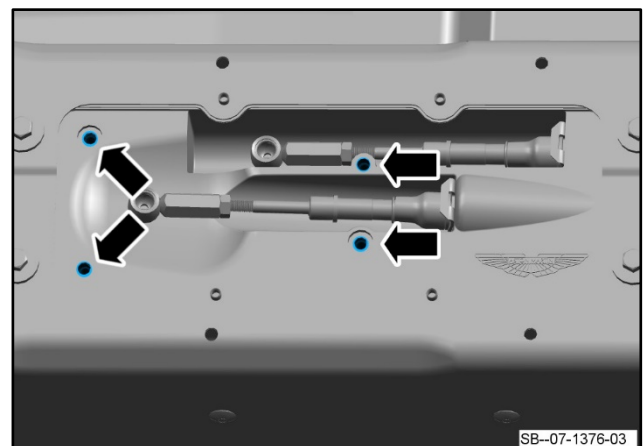

Figure 24
28. Use a drill with a 6.5 mm drill bit to increase the size of the four holes shown (refer to Figure 24). Drill to a depth of 20 mm.